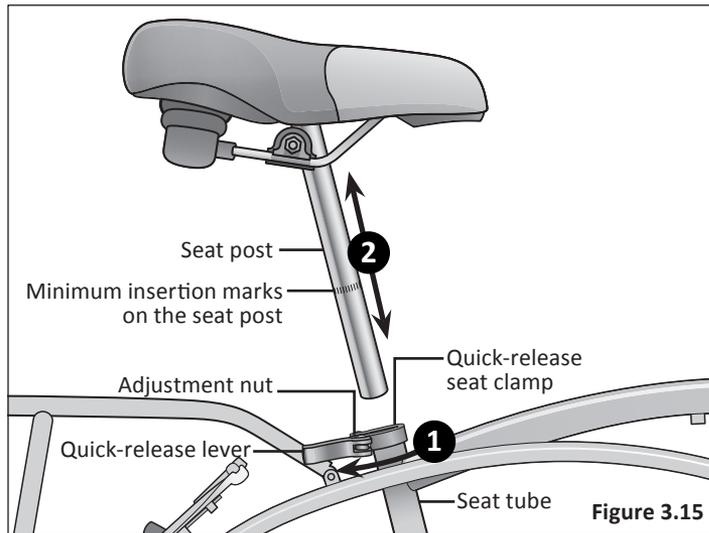

Figure 3.15
- 1 Unlock the quick-release lever and insert the seat post into the seat tube. **Figure 3.15**